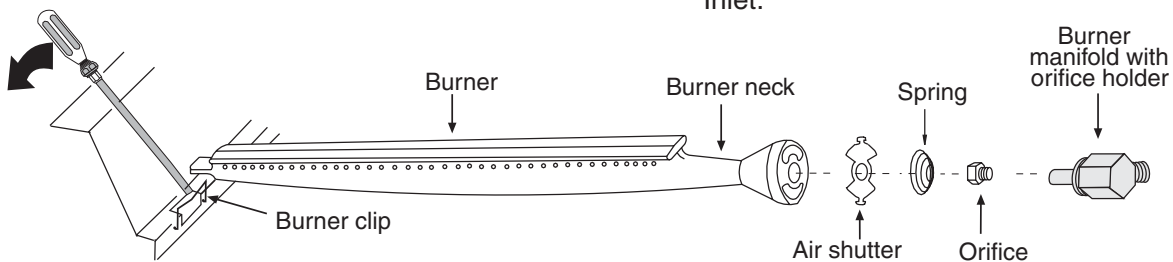

Fig. 11-1 - Burner orifice diagram
- After checking orifice drill size, install the air shutter spring and the air shutter over the orifice holder fitting in the order and position shown in Fig. 11-1.